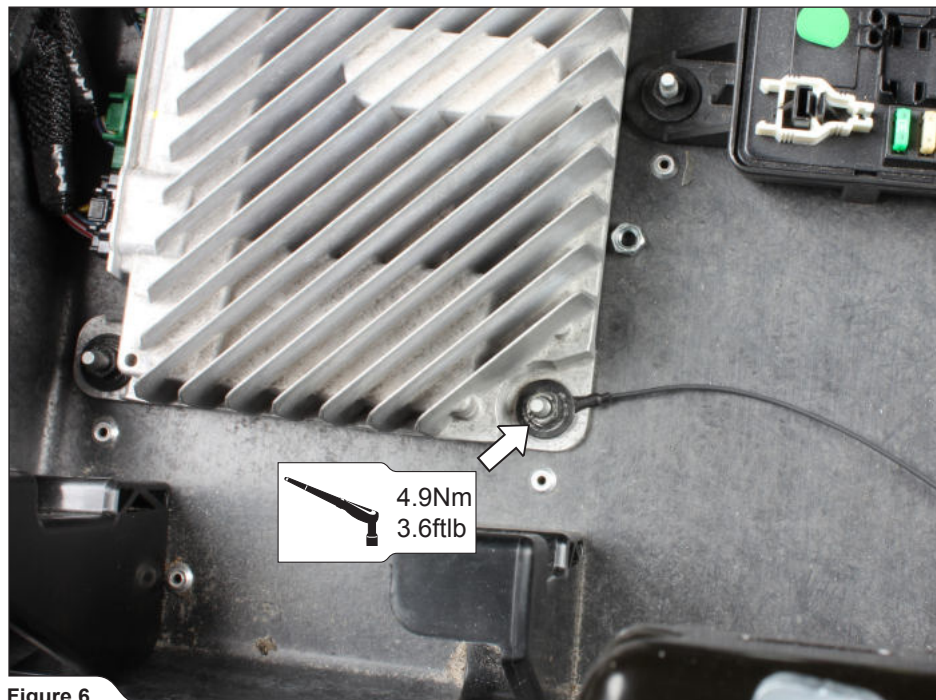

Figure 6
6. Tighten the ground wire connector into marked place using stock nut (**Figure 6**).